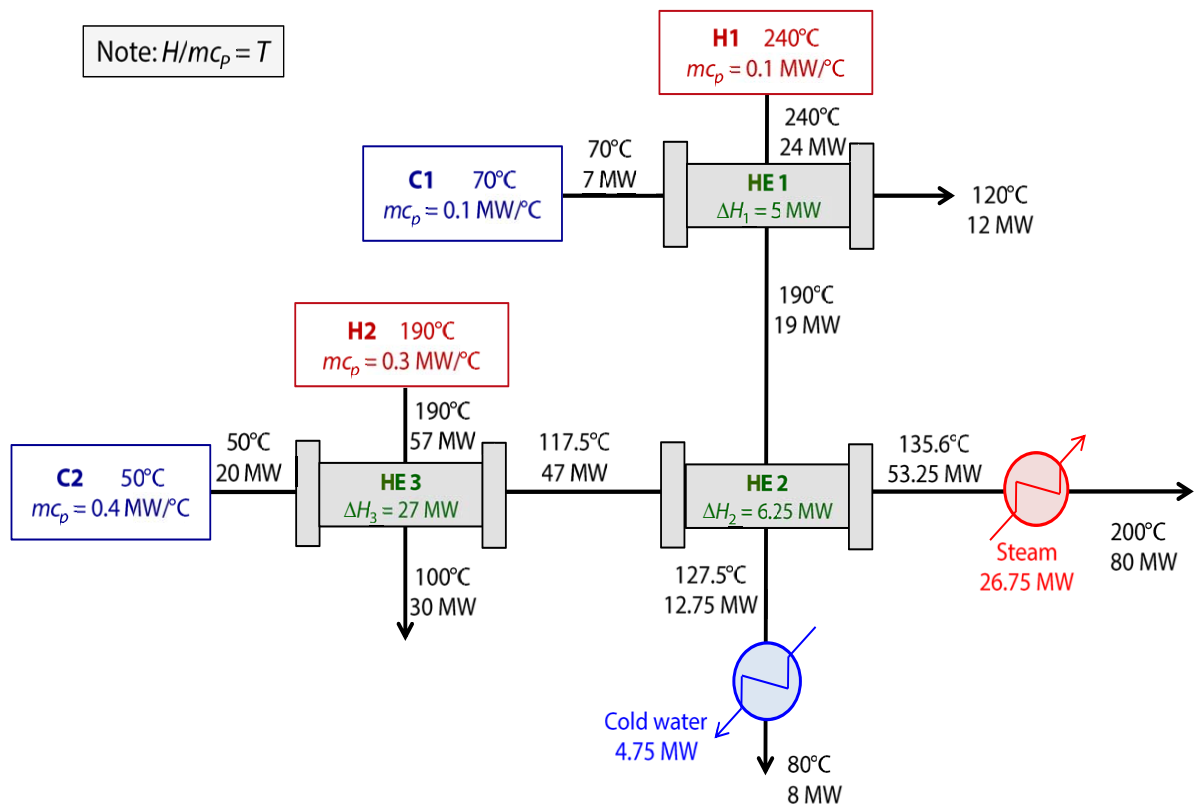

Figure S8.13a
The energy balance for the original network is shown in Figure S8.13a
b) Figure S8.13a shows an improved network.